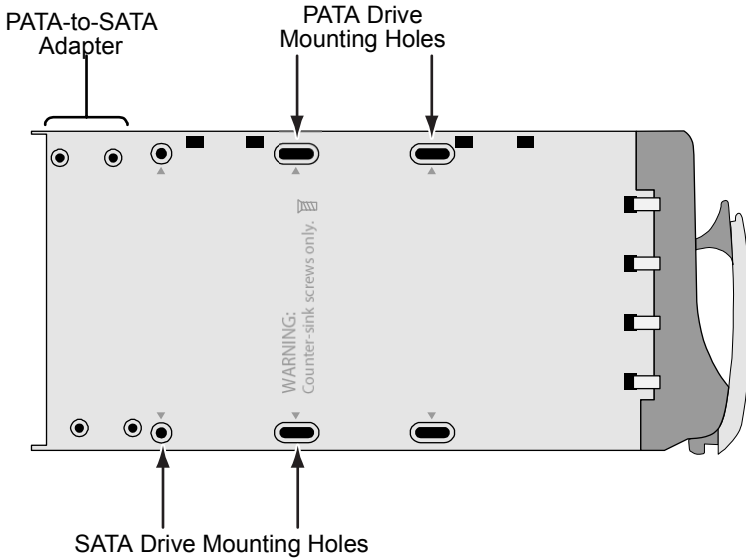

Figure 4. Drive Carrier mounting holes
2. Insert the screws through the holes in the Drive Carrier and into the bottom of the disk drive (see Figure 4, page 11).
5. Carefully lay the drive into the carrier so that the screw holes on the bottom line up (see Figure 4).